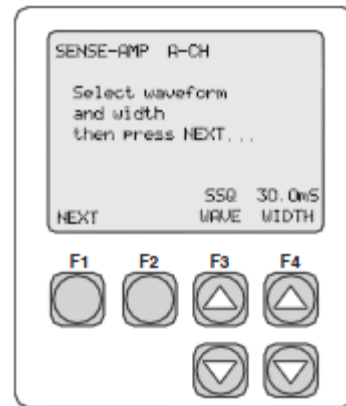

Figure 7
- Depress the Down Arrow key under “F4” to change 30ms to 20 ms. Then press “F1” (NEXT) to accept a 20ms SSQ wave (Sine Square Wave) for ATR. Figure 7
- Depress “F1” (NEXT) to accept a 40.0 ms SSQ wave for VENT. Figure 7